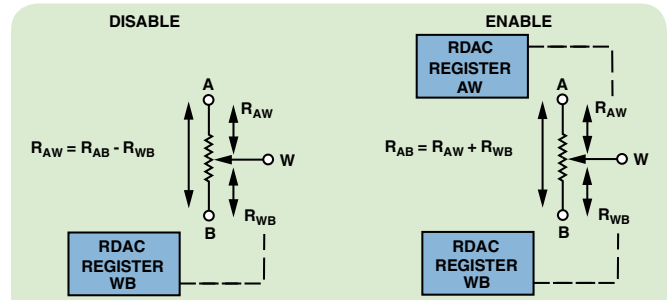

Figure 10. Linear gain setting mode.
- The new patented linear gain setting mode allows controlling the potentiometer as two independent rheostats, R_{AW} and R_{WB} , connected in a single point, W terminal (see Figure 10). This mode is ideal in equations where the output depends on the ratio of two resistors, $G = R1/R2$, for example, in an inverting amplifier. This mode can be found, for example, in the AD5141, offering a maximum ratio error below $\pm 1\%$.